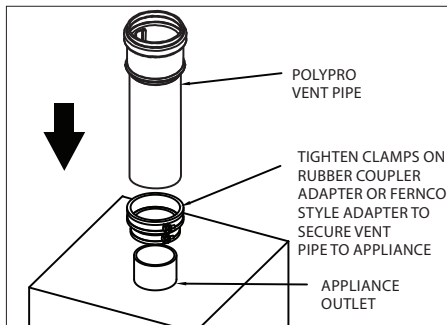

Figure 5
3. If the appliance outlet has a rubber boot or Fernco-style appliance adapter, then the PolyPro vent pipe may attach directly to the appliance (Fig.5).